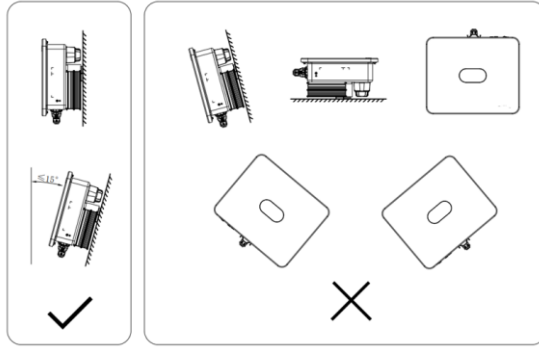

Fig. 4.6 Installation Location of Inverter
(4) The mounting surface should be upright (see Fig. 4.6). Install the inverter vertically or at a backward tilt of  $\leq 15^\circ$  so as to facilitate heat dissipation. Forward tilt, horizontal installation, upside-down installation, backward tilt of  $>15^\circ$  and sideways tilt are not allowed.